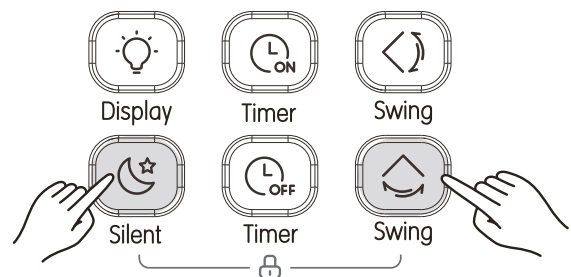

fig. 19
- Press and at the same time to lock the button (see "fig. 19"), and the screen will display the lock icon ;